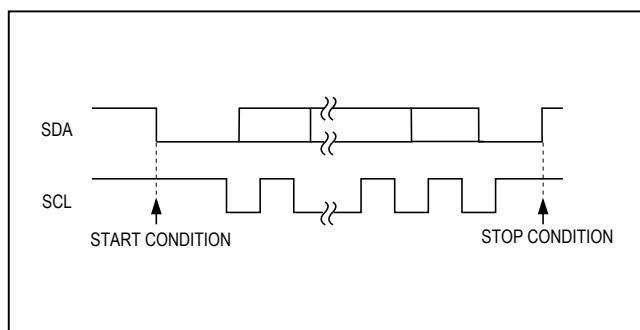
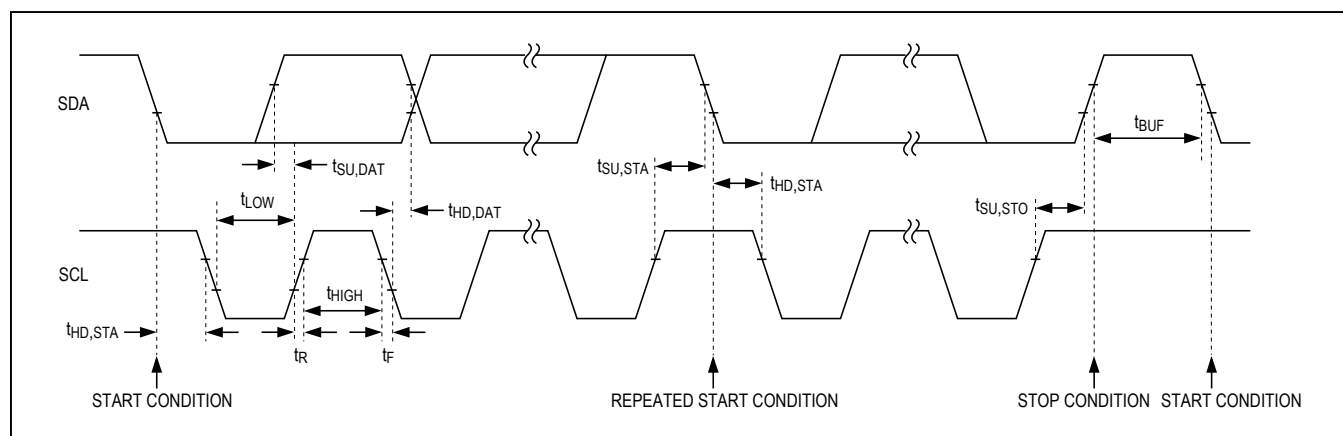
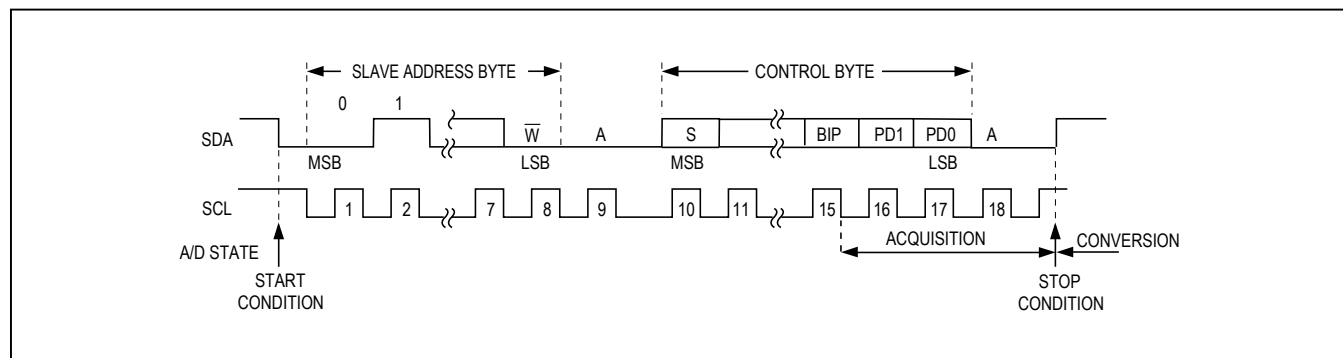

Figure 4. START and STOP Conditions
Figure 5. 2-Wire Serial-Interface Timing Diagram
Figure 9. Complete 2-Wire Serial Write Transmission
The master signals the beginning of a transmission with a START condition (S), which is a high-to-low transition on SDA while SCL is high. When the master has finished communicating with the slave, the master issues a STOP condition (P), which is a low-to-high transition on SDA while SCL is high (Figure 4). The bus is then free for another transmission. Figure 5 shows the timing diagram for signals on the 2-wire interface. The address-byte, control-byte, and data-byte are transmitted between the START and STOP conditions. The SDA state is allowed to change only while SCL is low, except for the START and STOP conditions. Data is transmitted in 8-bit words. Nine clock cycles are required to transfer the data in or out of the MAX127/MAX128. (Figures 9 and 10).
When the write bit is set ( $R/\overline{W} = 0$ ), acquisition starts as soon as Bit 2 (BIP) of the input control-byte has been latched and ends when a STOP condition has been issued. Conversion starts immediately after acquisition. The MAX127/MAX128's internal conversion clock frequency is 1.56MHz, resulting in a typical conversion time of 7.7 $\mu$ s. Figure 9 shows a complete write cycle.